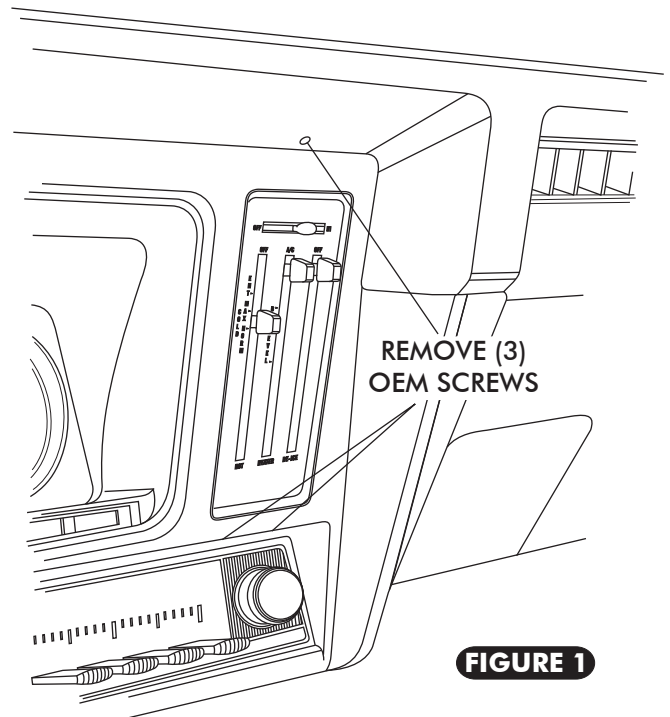

FIGURE 1
- ❑ REMOVE THE (3) OEM MOUNTING SCREWS FROM INSTRUMENT PANEL OF DASH SEE FIGURE 1 BELOW